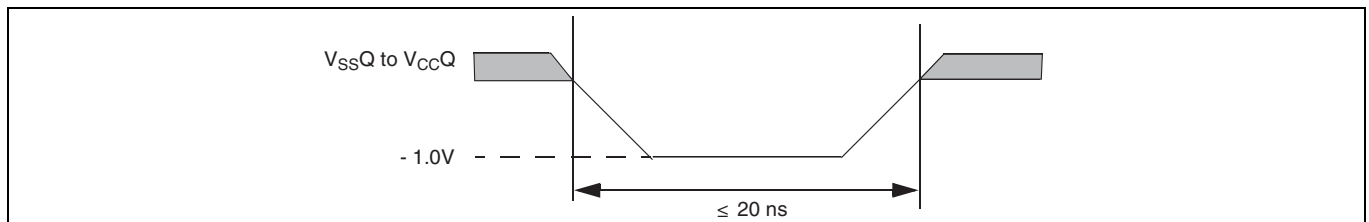
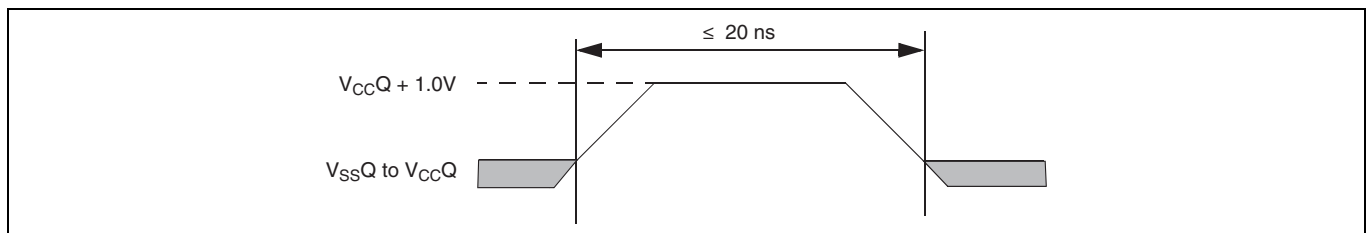

Figure 27 Maximum negative overshoot waveform
Figure 28 Maximum positive overshoot waveform
30. Minimum DC voltage on input or I/O signal is -1.0V. During voltage transitions, input or I/O signals may undershoot V_{SS} to -1.0V for periods of up to 20 ns. See Figure 27. Maximum DC voltage on input or I/O signals is V_{CC} +1.0V. During voltage transitions, input or I/O signals may overshoot to V_{CC} +1.0V for periods up to 20 ns. See Figure 28.